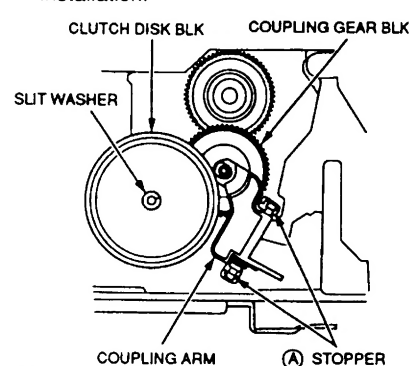

Fig 14.
- 1: Remove the SLIT WASHER as shown in Fig 14.
- 2: Release the two (A) stoppers of the COUPLING ARM and pull up the CLUTCH DISK BLOCK and COUPLING GEAR BLOCK at the same time.